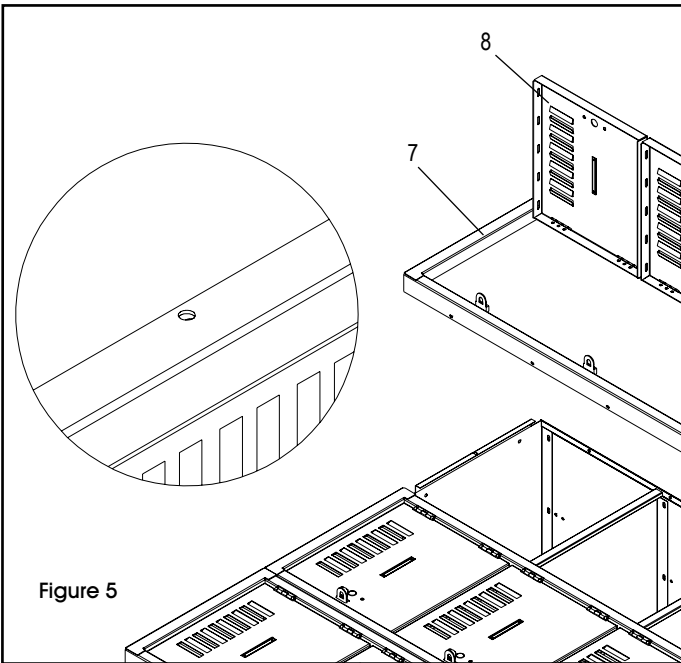

Figure 5
7. Place door and frame assemblies (7 & 8) over the locker body. Make certain that body sides are inside frames, not between the frames. Attach top to frame header and the bottom to frame sill (one bolt each). (See Figure 5)